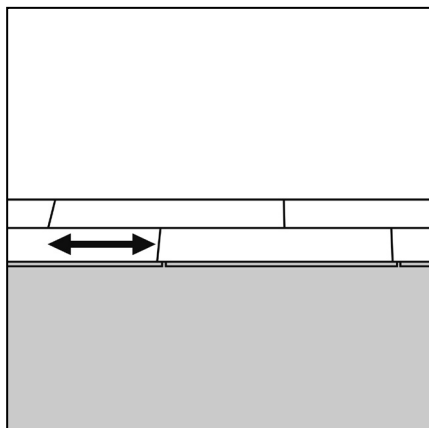

Figure 5 Stagger the short joints min 150mm
- > Always try to stagger the short joints approx. 150mm from the nearest short joint in the previous row (fig 5). Do not forget to include the required expansion gap to the wall.